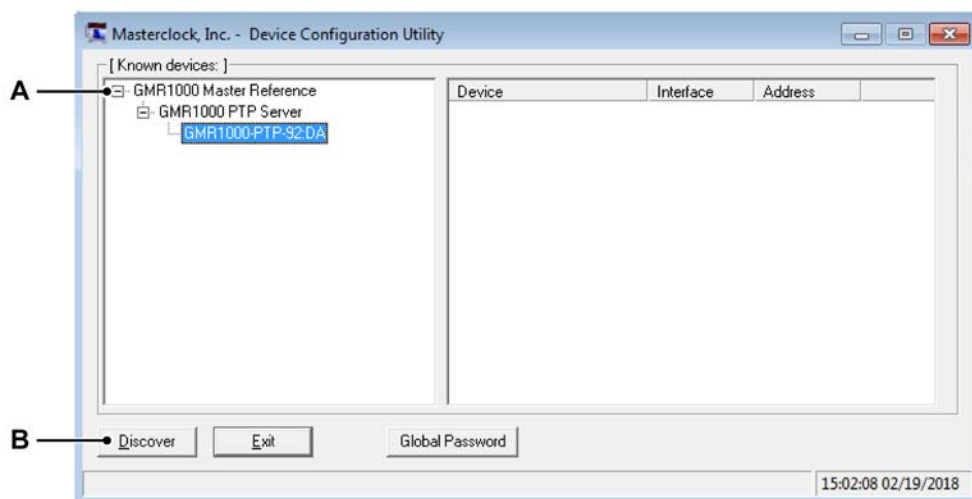

Figure C.63: Device Configuration Utility tool - Detected devices
- 1 Start the WinDiscovery tool from Masterclock®, this will show the devices on the network (see Figure C.63).